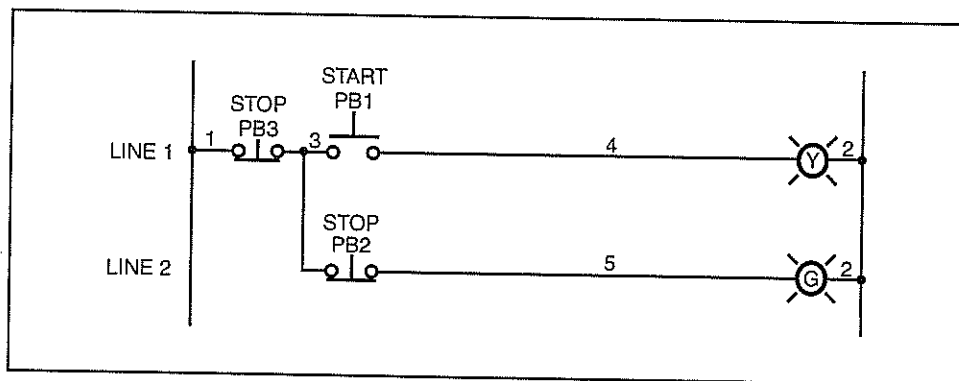

Figure 29. Ladder Diagram for Skill 5
- 1. Perform the following substeps to determine the operation of a circuit given the ladder diagram in figure 29.
- 3. Connect the circuit as shown in figure 29.